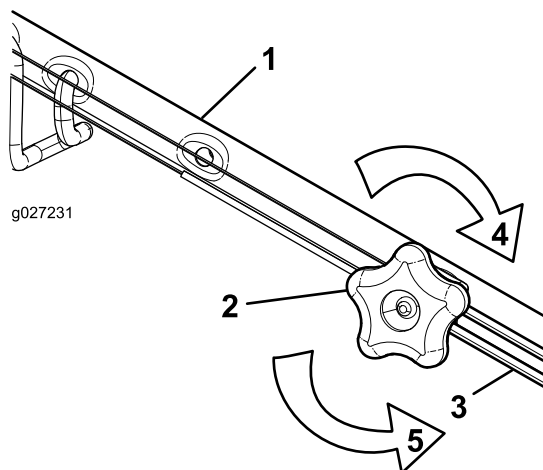

Figure 33
1. Turn the adjustment knob counterclockwise to loosen the cable adjustment (Figure 33).
2. Adjust the tension on the cable (Figure 33) by pulling it back or pushing it forward and holding that position.